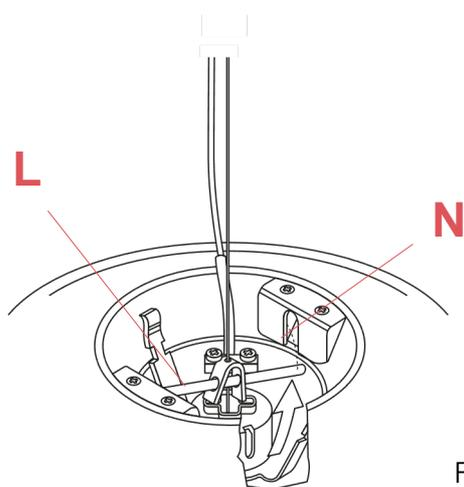

Fig.3
Hook the rod (L) into the housing (N), until it locks "clicks - in". (fig.3)